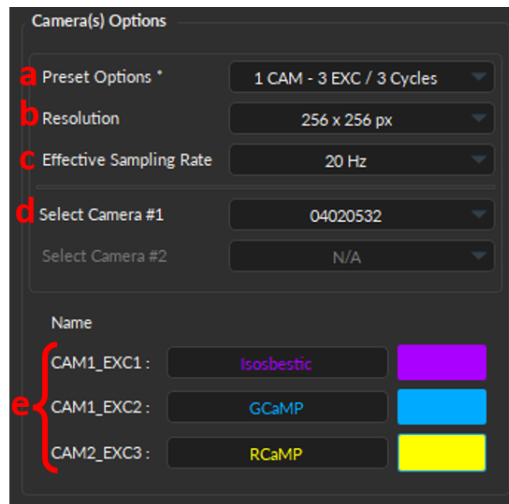

Figure 15.18: *BFMC Channel, Camera Options*
1. The **Camera(s) Options** (Fig. 15.18) defines which preset option to use and allows users to select the proper camera and camera parameters for the recording, such as:
- a) The **Preset Options** drop-down (Fig. 15.18, a) contains six pre-configured options which are listed in Table 15.2, along with their use cases.
- b) The **Resolution** drop-down (Fig. 15.18, b) sets the resolution (pixel x pixel) of the Image stack from which ROI(s) will be computed. There are six options, among which the lowest available *Image size* is 256 x 256, and the maximum is 1024 x 1024. Note that if the save **Image Stacks** option is enabled, using a large resolution will result in larger *.doric* data files.
- c) The **Effective Sampling Rate** drop-down (Fig. 15.18, c) sets the true frequency (in Hz) of each **EXC** since, when more than one excitation is used, the excitations are interleaved with one another, reducing the sampling rate by half (for 2 EXC) or by a third (for 3 EXC). Thus, the following **Effective Sampling Rate** are available according to the number of excitations:
- d) The **Select Camera #** drop-down (Fig. 15.18, d) sets which CMOS camera sensor will be labeled as **CAM1** and **CAM2** (if in use), by selecting the *Camera ID*.
- e) The **Name CAM# EXC#** (Fig. 15.18, e) allows users to label the specific **Camera excitations** with more intuitive name. This setting also lets users select the trace color for the data collected during the corresponding excitations.